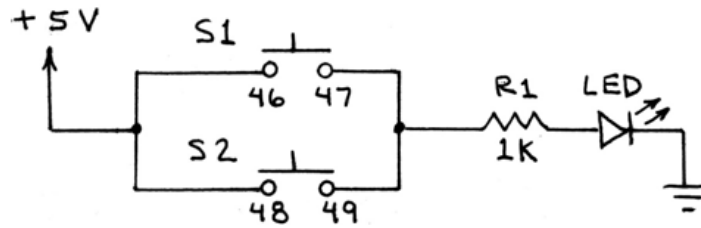

Figure 6.2. Parallel Switch OR Logic
2. Wire the circuit of Figure 6.2 (similar to Workbook pg. 15 but using regulated +5 volts.) Wire directly from the schematic: